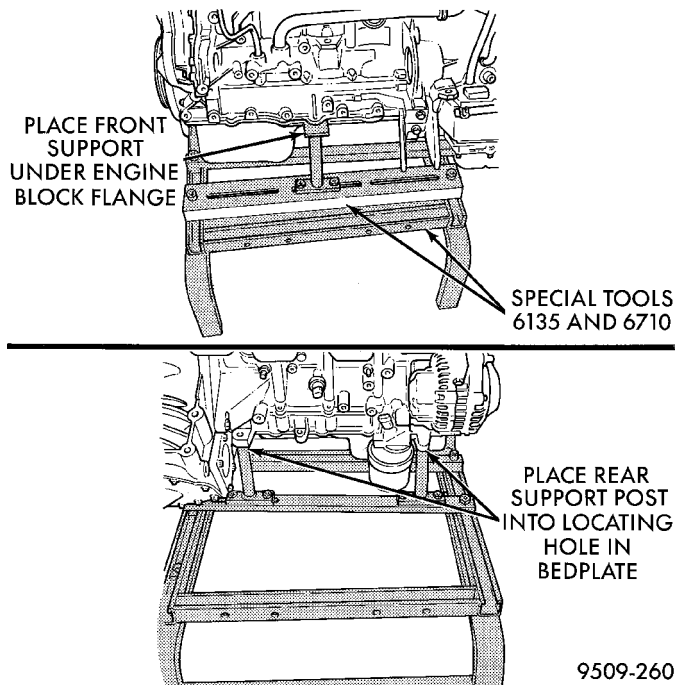

Fig. 18 Positioning Engine Cradle Support Post Mounts
- (18) Lower vehicle. Remove air cleaner assembly.
- (19) Remove power steering pump and reservoir. Set them aside.
- (20) Remove A/C compressor.
- (21) Remove ground straps to body.
- (22) Raise vehicle enough to allow engine dolly and cradle Special Tools 6135 and 6710 to be installed under vehicle.
- (23) Loosen engine support posts to allow movement for positioning onto engine locating holes and flange on the engine bedplate. Lower vehicle and position cradle until the engine is resting on support posts (Fig. 18). Tighten mounts to cradle frame. This will keep support posts from moving when removing or installing engine and transmission.
- (24) Install safety straps around the engine to cradle tighten; straps and lock them into position.
- (25) Raise vehicle enough to see if straps are tight enough to hold cradle assembly to engine.
- (26) Lower vehicle so weight of the engine and transmission ONLY is on the cradle assembly.
- (27) Remove engine and transmission mount thru-bolts.
- (28) Raise vehicle slowly. It may be necessary to move the engine/transmission assembly with the cradle to allow for removal around body flanges.